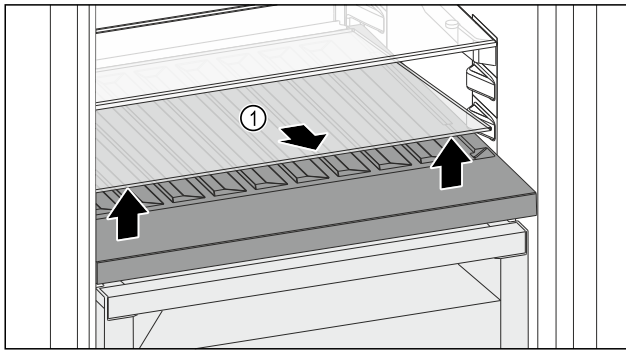

Fig. 84
- ▶ Lift the glass shelf Fig. 84 (1) at the front and remove.
- ▶ Store the glass shelf Fig. 84 (1) in a safe place outside the appliance.
- ▶ Insert the glass shelf (2) under the variable bottle rack.